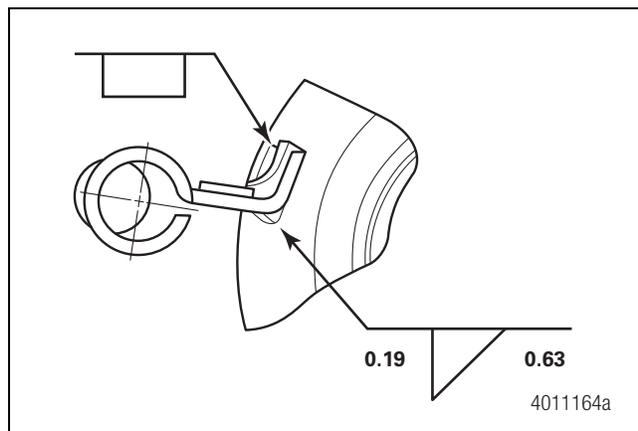

Figure 5
- Fully weld the sensor bracket to the axle. Refer to the specifications shown in Figure 5.